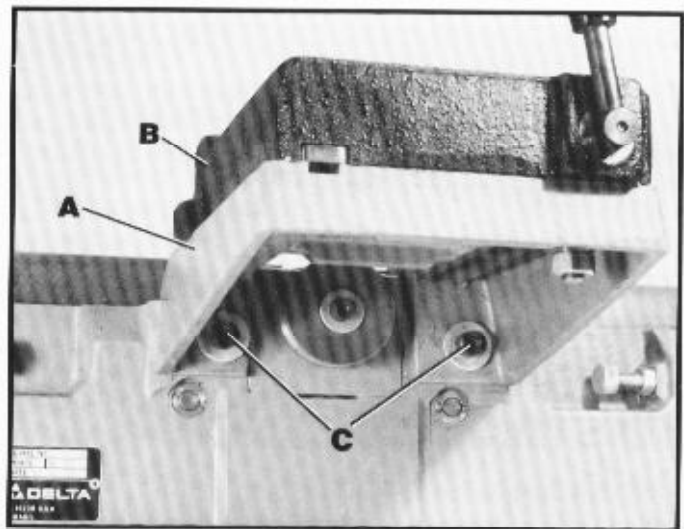

Fig. 5
1. Assemble the fence carriage (A) Fig. 5, and fence sliding bracket (B) to the side of the jointer base using the two 1-3/16" long socket head cap screws and washers (C).